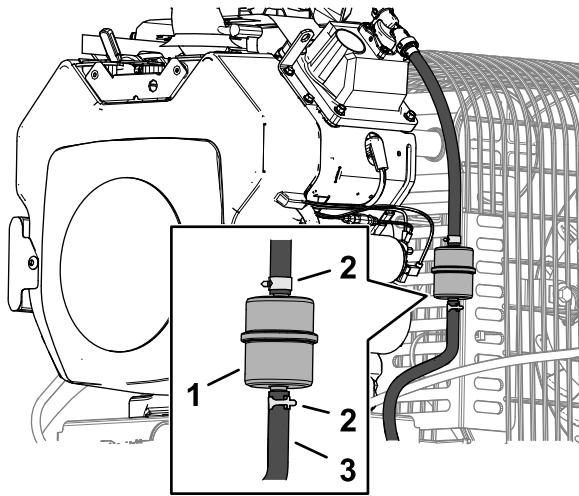

Figure 40
- Squeeze the ends of the hose clamps together and slide them away from the filter (Figure 40).
- Install a new filter and move the hose clamps close to the filter (Figure 40).
- Loosen the hose clamp at the fuel filter and slide it up the fuel line away from the fuel filter (Figure 40).
- Disconnect the fuel line from the fuel filter (Figure 40).
Note: Allow fuel to drain into a fuel container can or drain pan (Figure 40).
5. Install the fuel line onto the fuel filter. Slide the hose clamp close to the fuel filter to secure the fuel line (Figure 40).